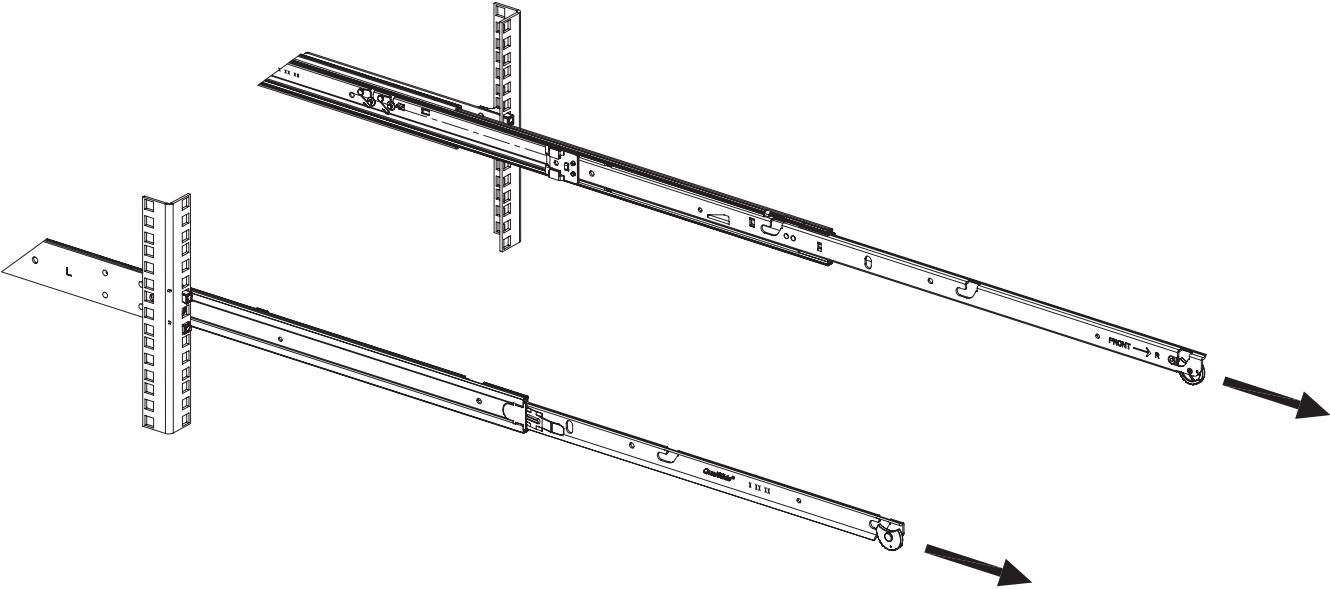

Figure C-2 Extending Rail Slides
2. Fully extend the rail slides as shown in Figure C-2.